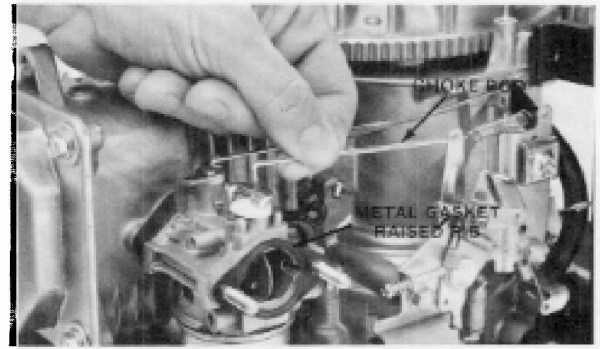

Figure 3-3
3. Lift the choke rod off the carburetor. The rod has a 90° bend as it is held in place by the body of the air cleaner. See Fig. 3-3. Please note the position of the gasket between the air cleaner and carburetor. The raised rib on the metal gasket should face the air cleaner.
1. Install the choke and throttle shafts. Check Fig. 3-3 and 3-7 for proper orientation of the shafts.